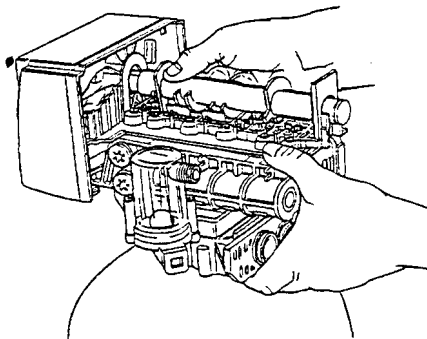

Figure 17
- Slide the camshaft back to disengage it from the control, Figure 17.